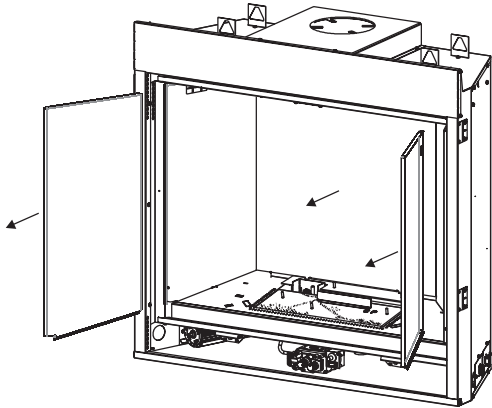

Figure 7
4. Remove log set and decorative media. Remove brackets and liners if installed. Retain bracket and screws for reassembly. See Figure 7. (Reflective liners shown)
19. Replace liner and bracket if removed in step 4. **See Figure 7.**